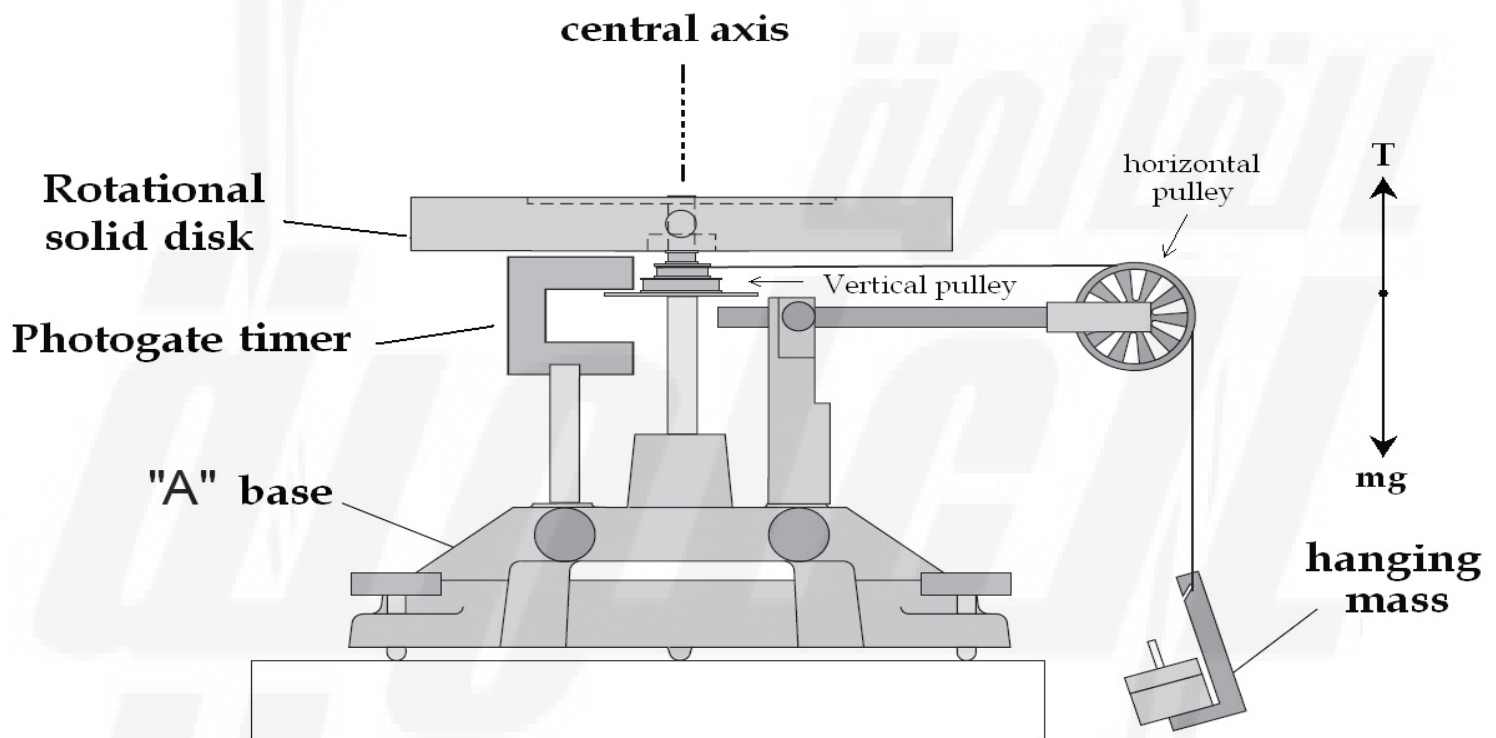

Figure 1. Rotational Apparatus and Free-Body Diagram
- To determine the torque  $\tau$  applied to the rotating disk refer to Figure 1. the torque is due to the tension of the string wrapped around the vertical pulley.
- 1) **Set up** the rotating apparatus as shown in Figure 1 with the disk placed onto the vertical shaft.
- \* The torque  $\tau$  using equation (4)=  $\dots\dots\dots$
- \* The moment of inertia of the disk using equation (5)=  $\dots\dots\dots$
- 1) **Set up** the rotational apparatus as shown in Figure 1.